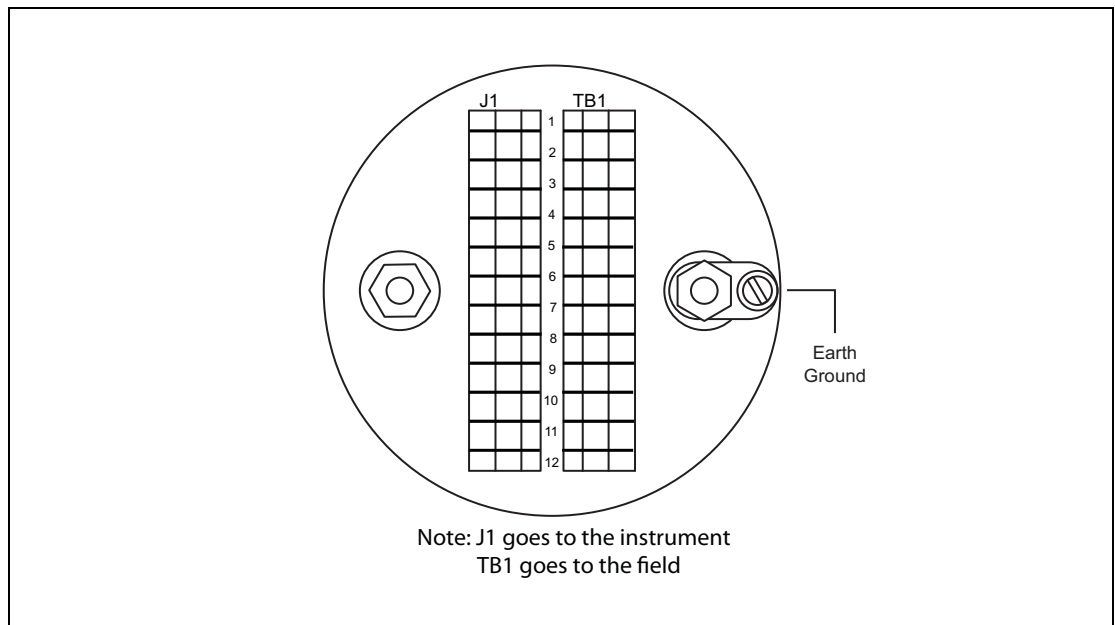

Figure 4-4: Earth Ground Connector: 08-08744-2 (without surge protection) — Compatible Terminal Board
**Note** Earth Ground is located on the terminal circuit board in the junction box, as shown in Figure 4-4 on page 13.
Figure 4-4 on page 13 shows the limit switch terminal connections.